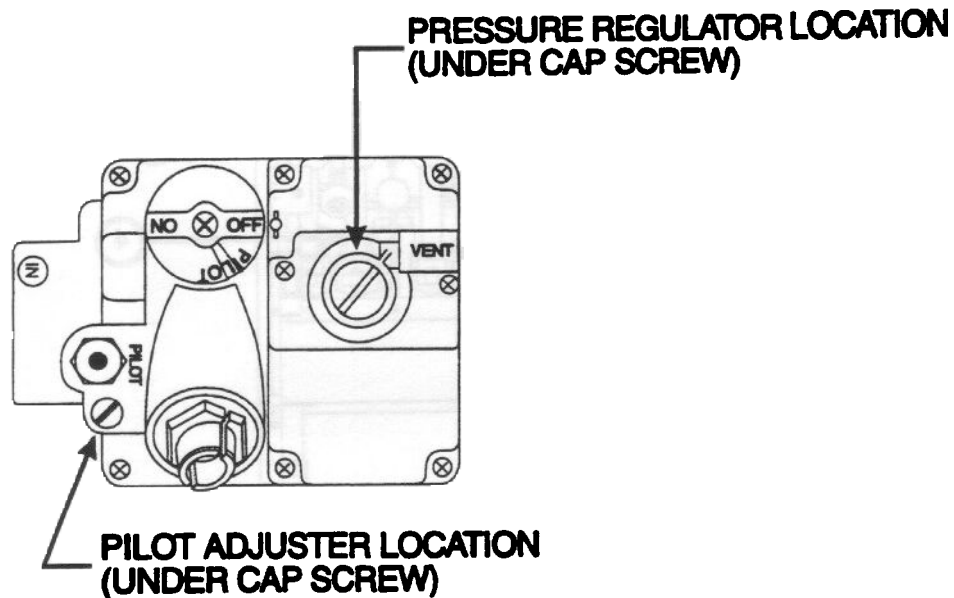

Figure 1-3 Gas Valve Showing Location of the Pressure Regulator and Pilot Adjusters
- d. To adjust the pressure, remove the regulator adjustment screw cover (see Figure 1-3). Use a flat tip screwdriver to adjust the screw until the proper pressure is reached. Turning the screw clockwise will increase the pressure, counterclockwise will decrease the pressure.